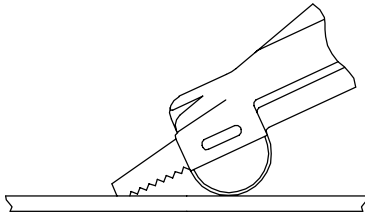

Figure 2
2. Raise the handle of the Saw, bringing the tip of the Blade in contact with the material. See Figure 2.